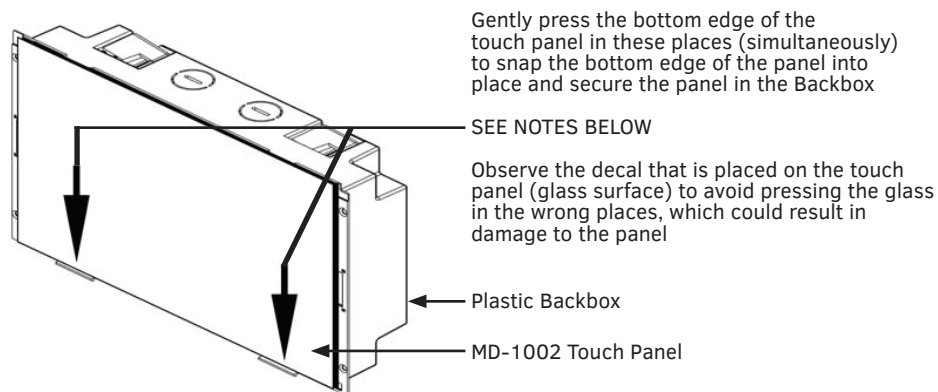

FIG. 28 Snapping the bottom edge of the panel into the Backbox
2. Gently press the bottom edge of the panel gently but firmly and **ONLY IN THE PLACES INDICATED BELOW** until the tabs click into place to secure the panel (FIG. 28):